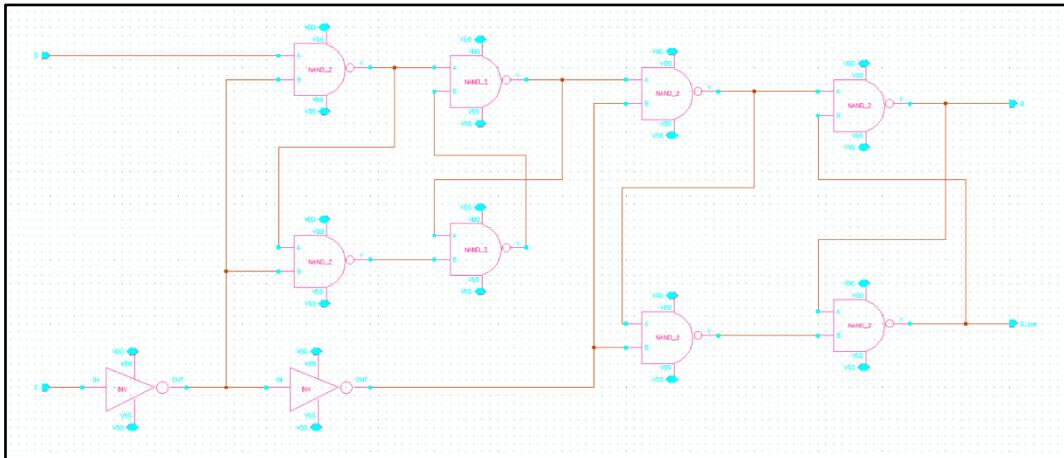

Figure 1 Schematic
1. Consider a positive-edge-triggered D flip-flop as shown in Fig. 1.